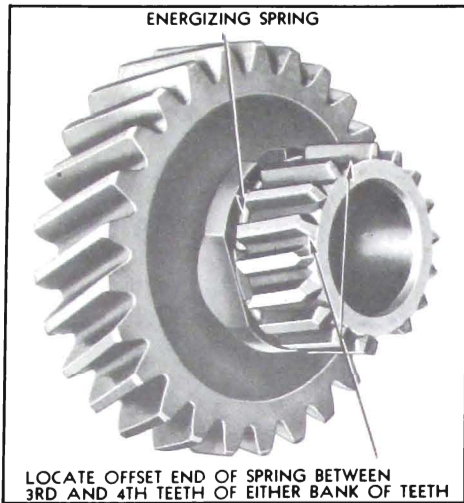

Figure 4-24—Energizing Ring Location
1. It will be noticed upon examining these springs that one of the ends is slightly offset. Each spring must be assembled in its groove in the clutch gear and second speed gear. The offset or locking end must be between the third and fourth teeth in either bank of teeth. See Figure 4-24.